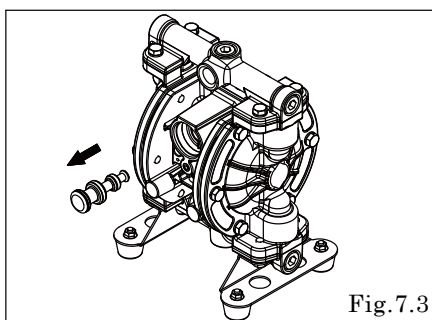

Fig. 7.3
- Remove Spool Assembly by pushing it from Cap A side (the side without reset button). [Fig. 7.3]